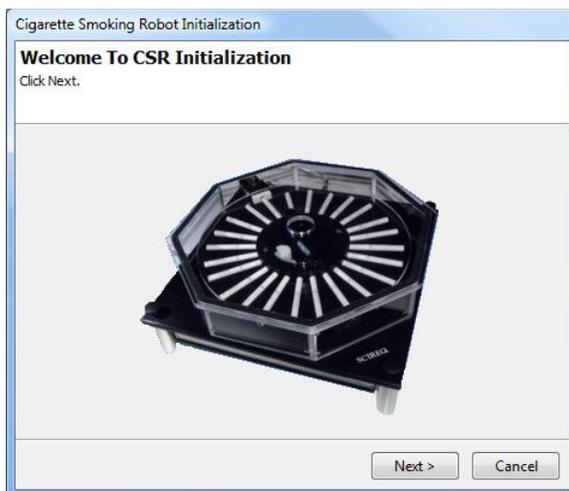

Figure 1. CSR initialization prompt
2. Now, click *Next* on the CSR initialization window shown in Figure 1